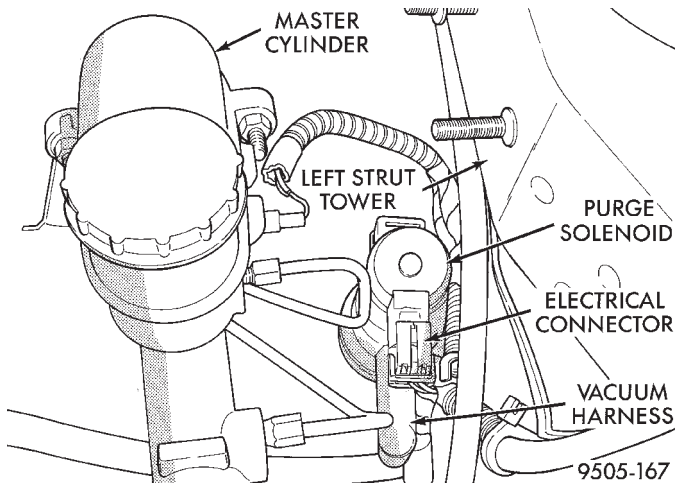

Fig. 91 Purge Control Solenoid
(4) Remove the vacuum harness connector and electrical connector from the purge solenoid (Fig. 91). Remove purge solenoid from vehicle.
(9) Install the purge control solenoid (Fig. 91) on the left front frame rail. Tighten the purge control solenoid mounting bolt.